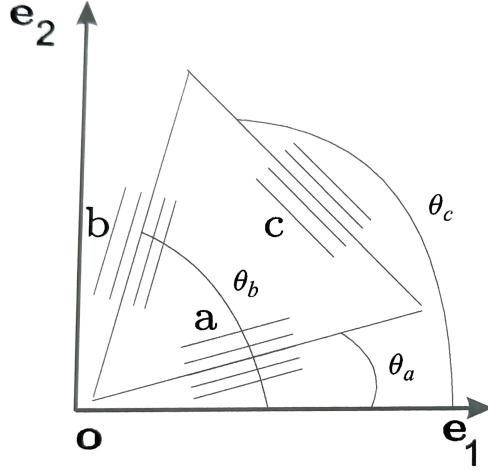

Figure 1: Schematic representation of a 60° strain-gauge rosette.
- (b) Consider a 60° strain gauge rosette to be mounted on the surface of a specimen as shown in Fig. 1 with $\theta_a = 0^\circ$, $\theta_b = 60^\circ$, and $\theta_c = 120^\circ$. The strain gauge rosette measures strains of $500 \mu\text{m}/\text{m}$, $700 \mu\text{m}/\text{m}$, and $900 \mu\text{m}/\text{m}$. Determine the principal strains, principal stresses, and maximum shear stress. [4 + 6 = 10]